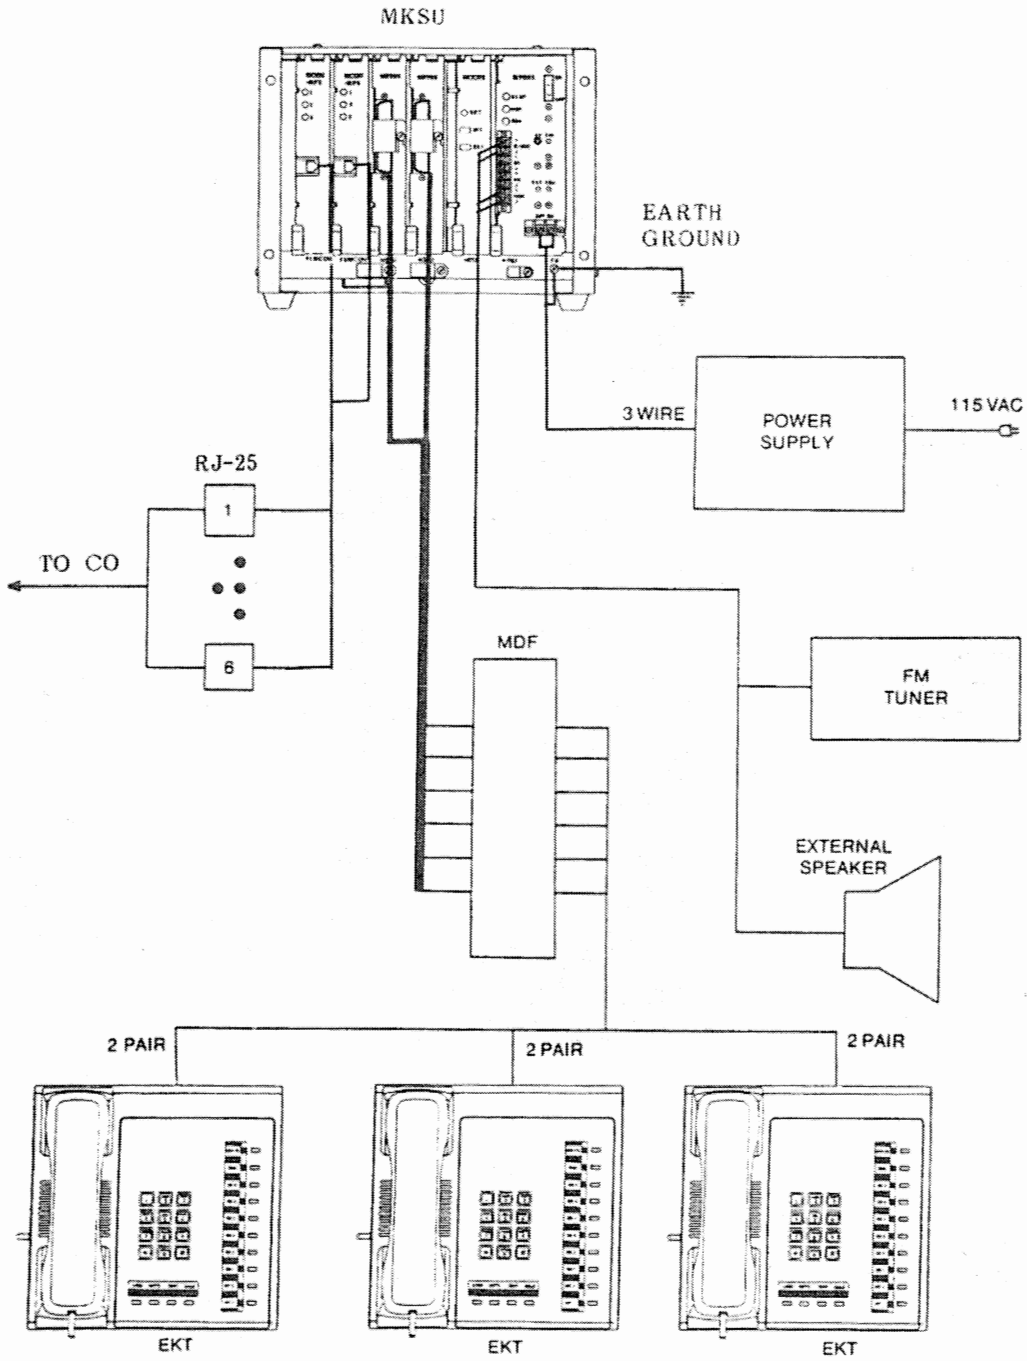

FIGURE 5
02.01 The system (Figure 5) consists of an MKSU, power supply and up to 16 Electronic Key Telephones. All connections between the MKSU and the EKTs are made via a customer-provided main distribution frame (MDF). Using modular line cords, the CO lines are then connected between the MCOU PCBs and the telephone company-provided RJ-25 jacks. An external tuner (or equivalent) is required if the music-on-hold feature is utilized.